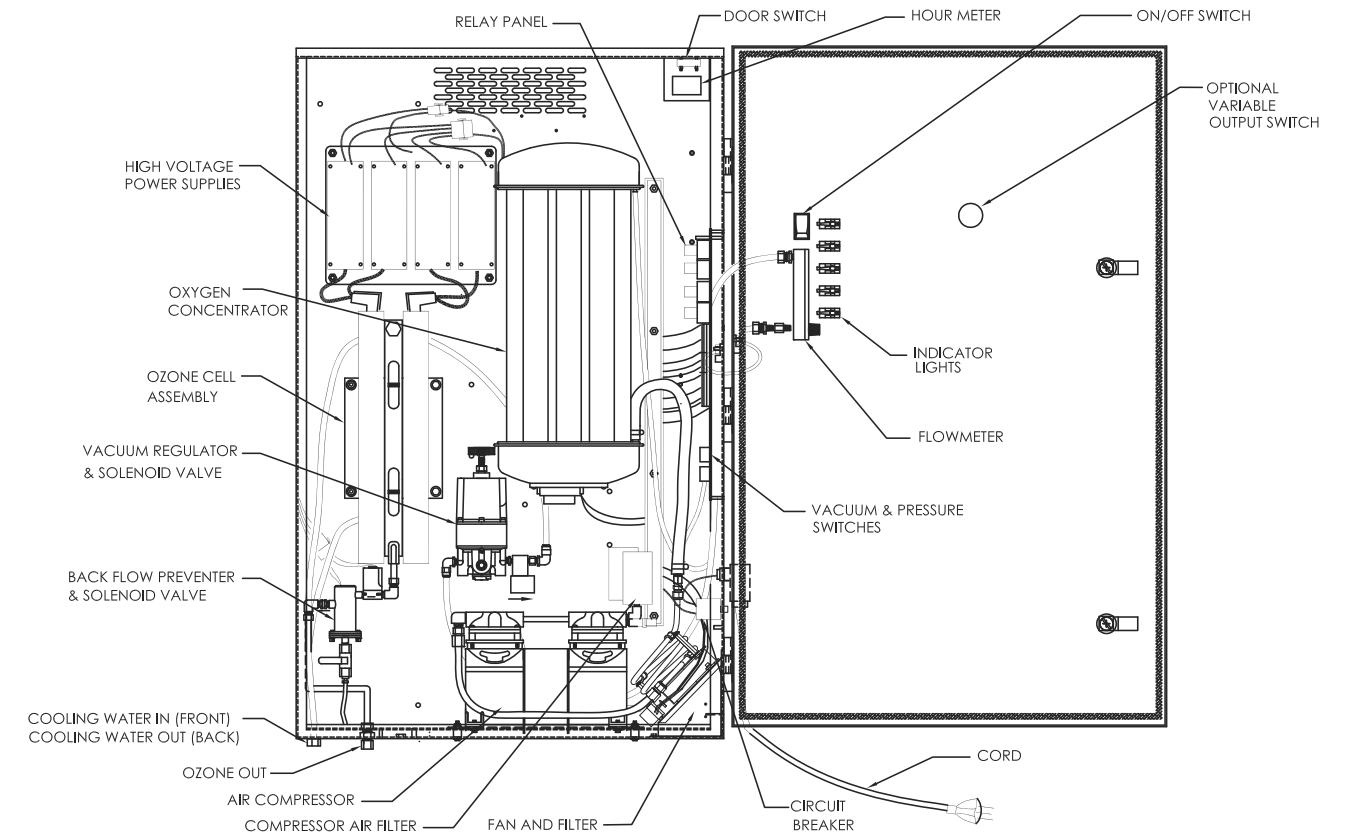

Figure 5a: Component Locations (ALL MODELS EXCEPT -50)
*Refer to Figure 5a and 6a* for component locations.